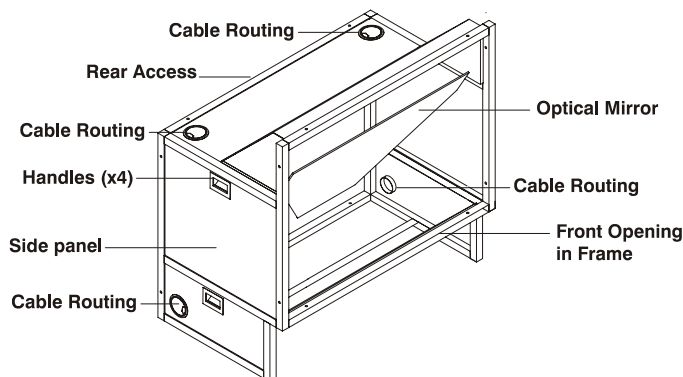
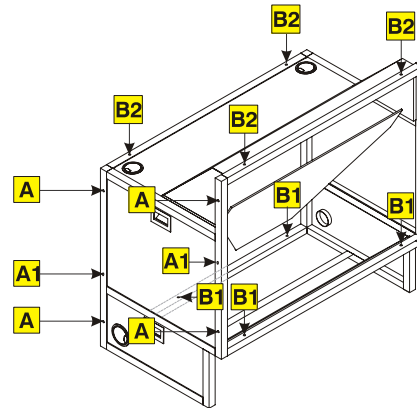

FIGURE 2-7 IDENTIFYING CUBE ENCLOSURE COMPONENTS
FIGURE 2-8 CUBE ENCLOSURE MOUNTING LOCATIONS
4. Located on the side panels (near the bottom of the cube) and top of the display cube are four openings used to route cables from one projector to the next in a display wall (See Figure 2-7). Install a cable cover (from the outside) over each opening to finish the look of the display cube and also to protect cables from rubbing up against the raw edge of the opening.
Refer to Figure 2-7 and Figure 2-8.